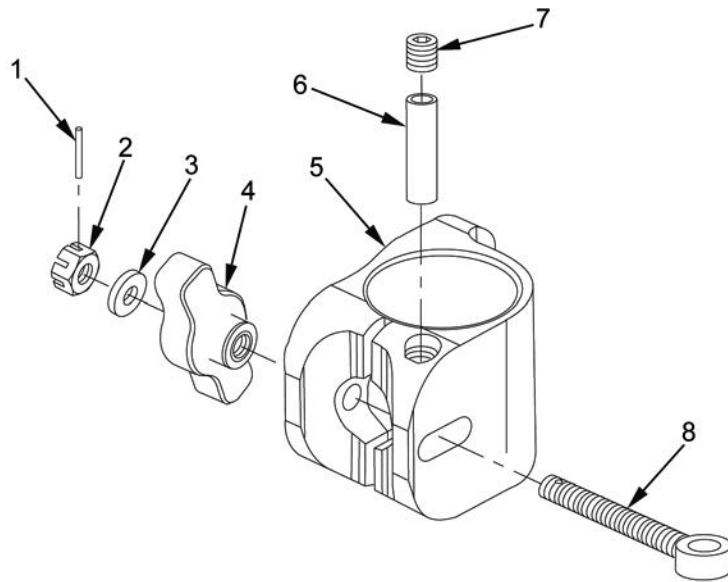

Figure 1. Disassembly/Assembly of Block Clamp.
2. Remove slotted nut (Figure 1, Item 2), flat washer (Figure 1, Item 3), and plain wing nut (Figure 1, Item 4) from eyebolt (Figure 1, Item 8).
3. Remove setscrew (Figure 1, Item 7) and headless straight pin (Figure 1, Item 6) from clamp (Figure 1, Item 5).
4. Remove eyebolt (Figure 1, Item 8) from clamp (Figure 1, Item 5).
1. Install eyebolt (Figure 1, Item 8) into clamp (Figure 1, Item 5).
2. Apply sealing compound to threads of setscrew (Figure 1, Item 7).
3. Install headless straight pin (Figure 1, Item 6) and setscrew (Figure 1, Item 7) into clamp (Figure 1, Item 5). Torque setscrew to 6.0 - 7.0 ft•lb (9 N•m).
4. Install plain wing nut (Figure 1, Item 4) onto eyebolt (Figure 1, Item 8) and tighten until nut is lightly seated against clamp (Figure 1, Item 5).
5. Install flat washer (Figure 1, Item 3) and slotted nut (Figure 1, Item 2) to eyebolt (Figure 1, Item 8). Tighten slotted nut until lightly seated against wing plain nut (Figure 1, Item 4).
6. Turn slotted nut (Figure 1, Item 2) counterclockwise until slot in nut aligns with hole in eyebolt (Figure 1, Item 8). Install new spring pin (Figure 1, Item 1). Ensure spring pin is flush with flat of nut.